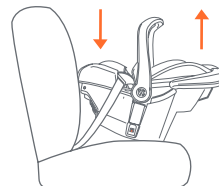
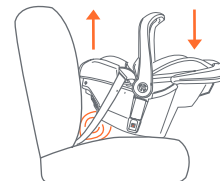

Fig. 52-2
Fig. 52-3
- If the Seat Angle Indicator shows the level line parallel with the ground, the seat is installed at the proper level of recline for occupants greater than 22 lb. to 35 lb. (Fig 52-3).
- If the Seat Angle Indicator line is not level, the Safety Seat is either **too upright** or **too reclined**. If the Safety Seat is too reclined adjust the Safety Seat as shown in (Fig. 52-2), until the level indicator shows **level**. If the Safety Seat is too upright, place a tightly rolled towel, or pool noodle, under the foot end of the Safety Seat until the level indicator shows level (Fig. 52-3). Re-tighten the vehicle seat belt as instructed in section **Securing the Safety Seat or Base in the Vehicle**.